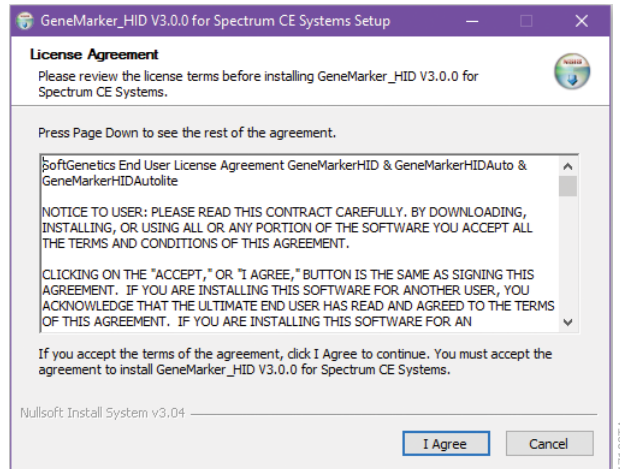

Figure 8. 'License Agreement' window.
3. The setup wizard will launch, displaying the 'License Agreement' window (Figure 8).